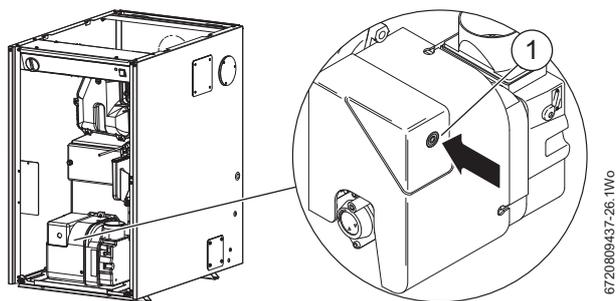

Fig. 62 Reset button
- ▶ Wait 2 minutes then press the lockout reset button [1] (see figure 62) to initiate another start sequence.